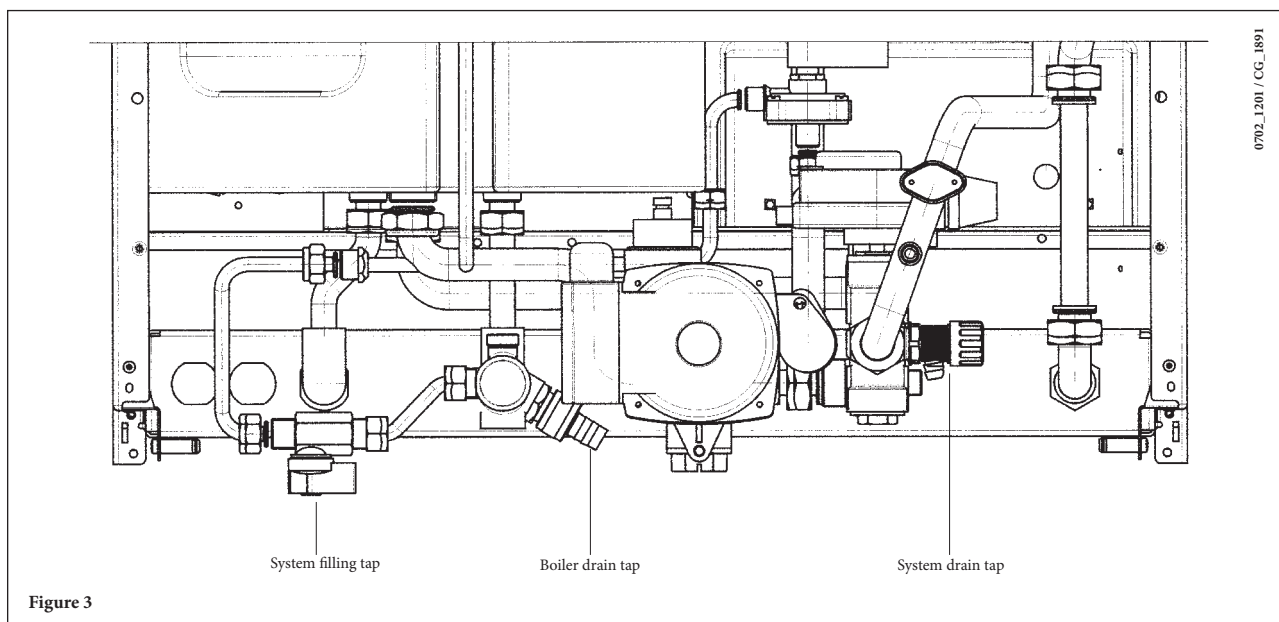

Figure 3
**IMPORTANT:** Regularly check that the pressure displayed on the pressure gauge (Figure 3) is 0.7 - 1.5 bar, with the boiler cold. In case of overpressure, open the boiler drain tap. In case of insufficient temperature, open the boiler filling tap (figure 3). Open the tap very slowly in order to vent the air.